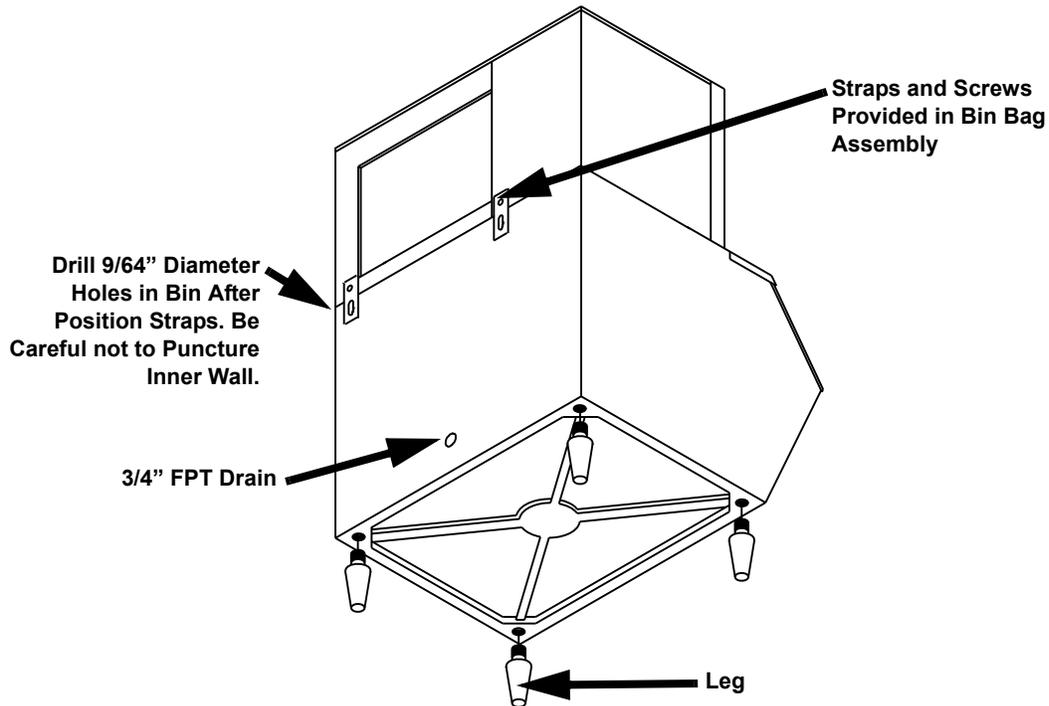

FIGURE 1
8. Once the pilot holes are drilled attach using the #14 screws. Carefully drive the screws into the bin. Do not strip the holes. This is a U.L. requirement and the responsibility of the installer (See FIGURE 1).